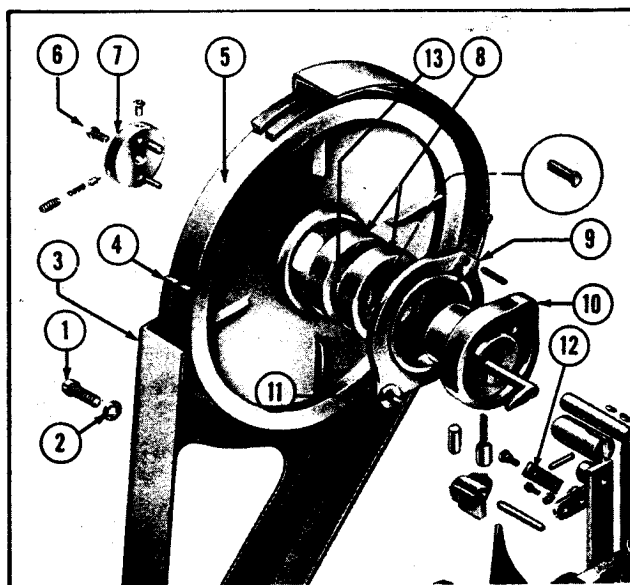

Figure 15—Clutch Disassembled
Detailed instructions, with accompanying illustrations (Fig. 15 and 16), for disassembling the Stitcher clutch and head are given in following paragraphs 1 and 2.
Figures 15 and 16 illustrate the disassembling procedures only and are not intended to identify parts for purposes of ordering parts. For ordering repair parts see Fig. 17, Sheets 1 through 4 and the Parts List.
1. HOW TO DISASSEMBLE AND REASSEMBLE CLUTCH (See Fig. 15.)
1—Reassemble the clincher cam (10), brake band (9), and clutch and brake rings (8) on the drive shaft as indicated in Fig. 15, engaging the brake band pin (11) with the brake band link (12). The clutch and brake rings (8), which are identical, must be assembled with the safety pin (13) in each ring engaged in hole in opposite ring.